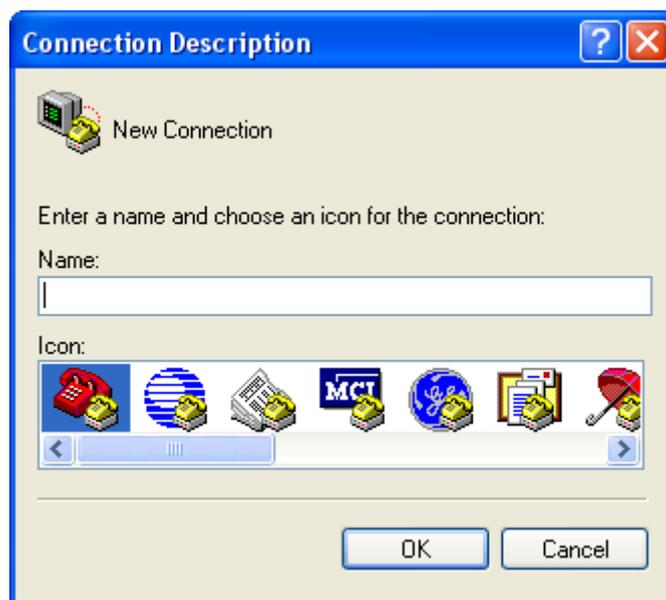

Fig. 3.1 Newly establish a connection and define the name and icon
**Step one:** Enter into Hyper Terminal. Click “Start” → “Programs” → “Accessories” → “Communications” → “Hyper Terminal” in Windows system, and the dialogue box below will appear (Fig. 3.1):